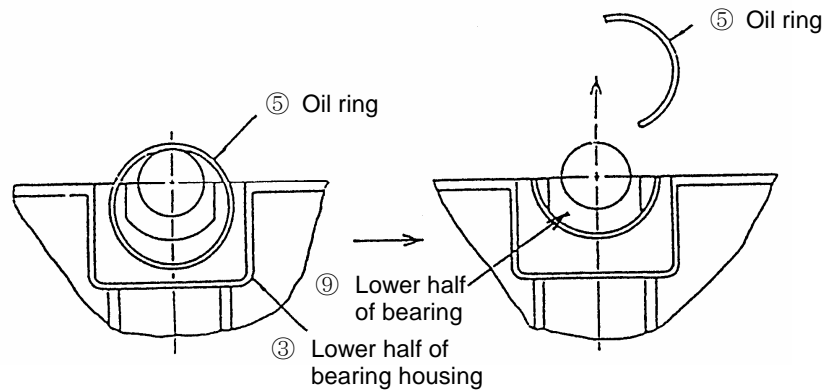

Figure 15 Disassembling the Oil Ring
10.4.2.4 Disassembling the Oil Ring (See Figure 15)